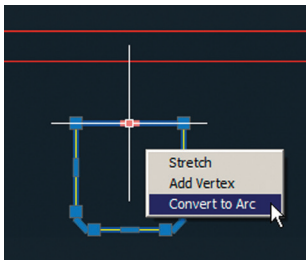

FIGURE 7.3 Converting a straight polyline segment into an arc
8. Select the polyline you joined in step 6. Hover the cursor over the top-middle grip and select Convert To Arc from the multifunction grip menu that appears (see Figure 7.3).